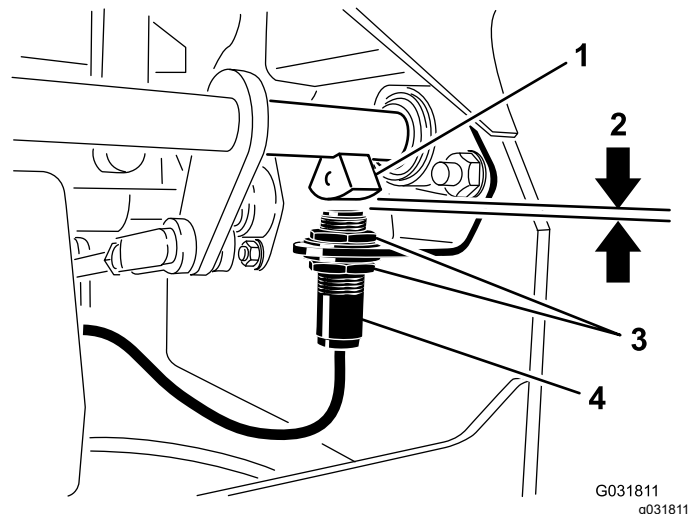

Figure 83
4. Move the switch up or down on the bracket until the distance between the brake-shaft sensor and the switch plunger is 4 mm (5/32 inch) as shown in Figure 83.